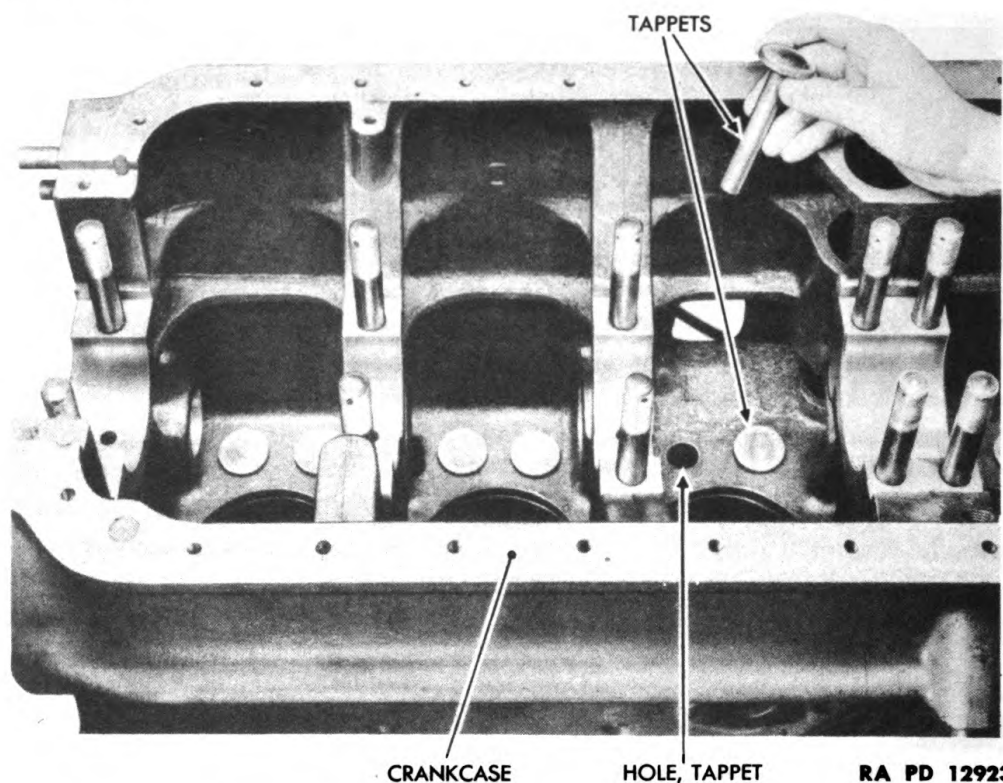

Figure 157—Installing Tappets in Crankcase
(4) **INSTALL TAPPETS** (fig. 157). Place tappets in position, entering them with faces up, from bottom of crankcase.